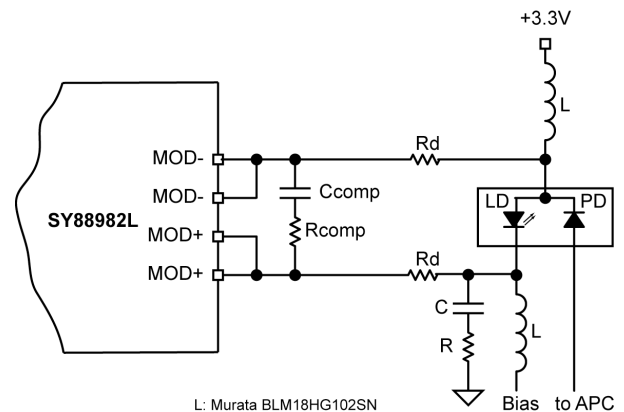

Figure 3. Laser DC-Coupled
The typical applications diagram on the first page shows how to connect the driver to the laser, single ended. To improve transition time and laser response, the laser can be driven differentially as shown in Figures 3 and 4. Driving the laser differentially will also minimize the cross talk with the rest of the circuitry on the board, especially the receiver.
$L di/dt$ is the voltage drop due to the laser parasitic inductance during I_{mod} transitions. Assuming $L = 1nH$, $t_r = t_f = 80ps$ (measured between 20% and 80% of I_{mod}), and $I_{mod} = 70mA$ (42mA from 20% to 80%), then $L di/dt$ will be equal to 525mV. This number can be minimized by making the laser leads as short as possible and using an RC compensation network between the cathode of the laser and ground or across the laser driver outputs as shown in Figure 3.
On the other hand, the small is the value of R_d , the higher is the overshoot/undershoot on the optical signal from the laser. In the circuit shown in Figure 3, the RC compensation network across the driver outputs (MOD+ and MOD-) allows the user $R_d = 10\Omega$. The optical eye diagrams at data rates of 155Mbps/622Mbps/1.25Gbps/2.5Gbps, shown in “Functional Characteristics” section, are all obtained with the same circuit using $R_d = 10\Omega$, $R_{comp} = 100\Omega$, and $C_{comp} = 3pF$. The compensation network may change from one board to another and from one type of laser to another. An additional compensation network (RC) can be added at the laser cathode for further compensation and eye smoothing.